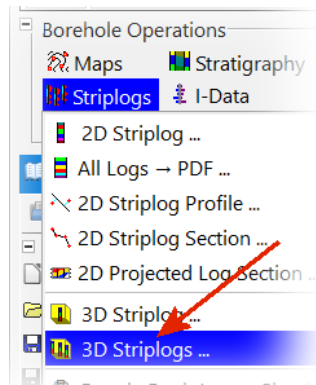

Figure 61
- Select the Borehole Operations / Striplogs / 3D Striplogs program (Figure 61).